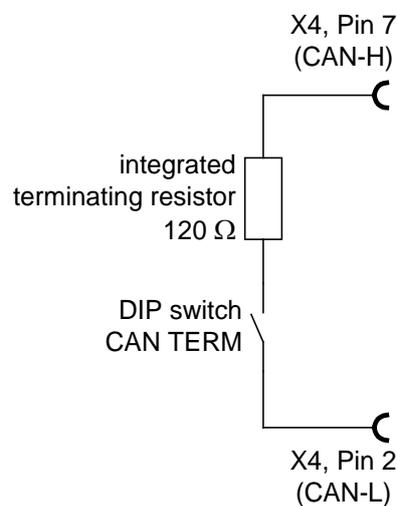

Figure 26: Integrated CAN terminating resistor
- A terminating resistor of  $120\ \Omega \pm 5\%$  must be present on both ends of the CAN bus cable. The item Servo Positioning Controller C 3-Series is equipped with an integrated terminating resistor that can be activated/deactivated via the DIP switch "CAN TERM" on the front panel (see *Figure 26*).